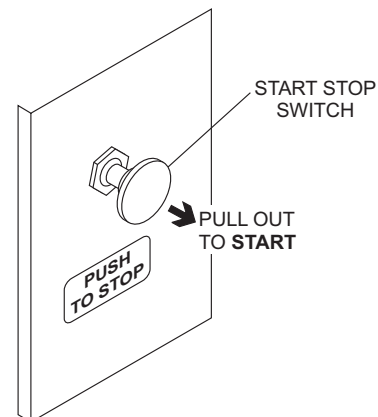

Figure 18. Main ON/OFF Switch
5. Located on the engine cover is the **engine start/stop** switch (Figure 18). Pull this switch outward to start the engine.